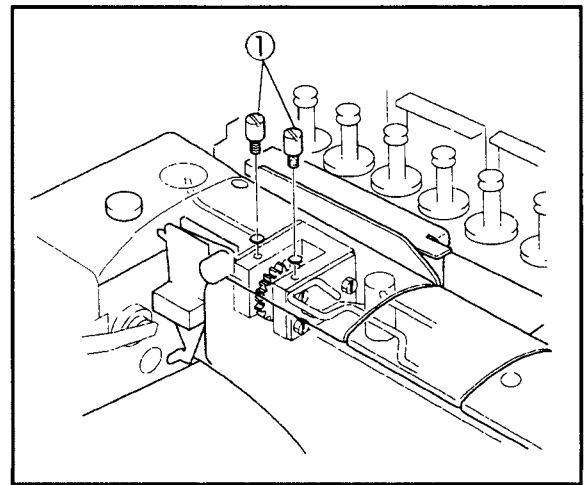

Fig. 24
Remove the plug screws① of the pump driven gear to prime oil. Run a machine after resetting them①. (Fig. 24)
移除幫浦上的油塞螺絲①注入油後裝回螺絲再使用機器。(Fig. 24)